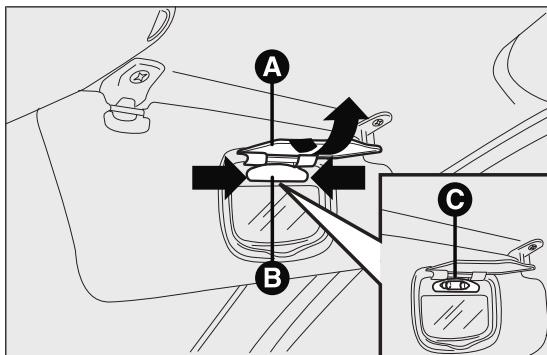

fig. 163
- open the mirror cover A fig. 163;